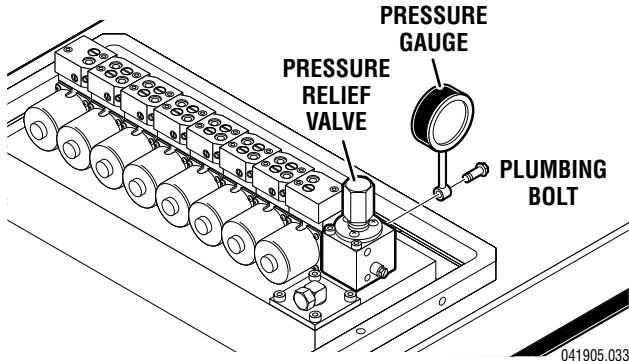

Figure 1-19.
1. Remove the blind cap and attach a hydraulic pressure gauge to the main oil gallery using a 6mm plumbing bolt. See figure 1-19.
1. Attach the pressure gauge onto the main oil galley as shown in figure 1-19.